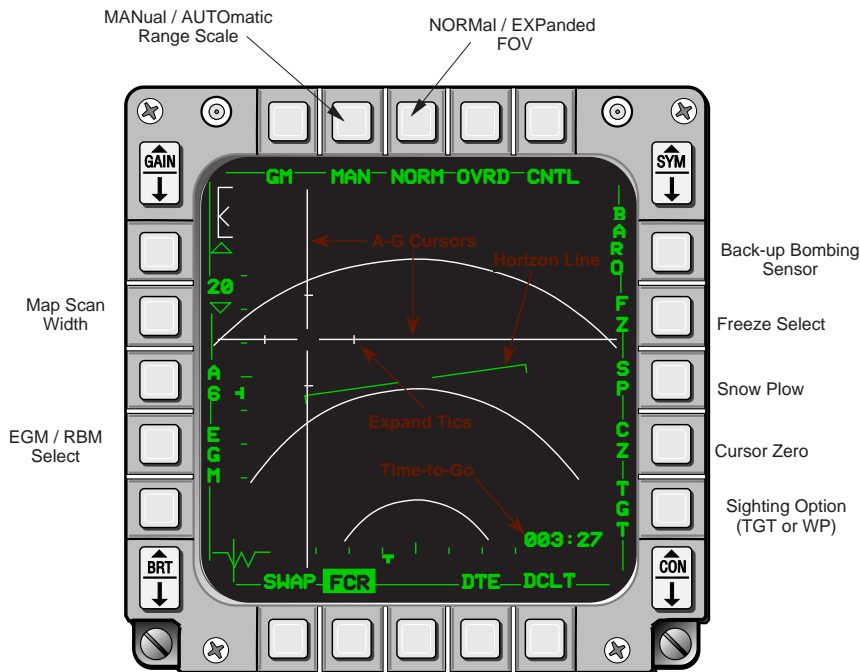

Figure 5-5 GM or SEA FCR Format
Ground Map (GM) and SEA modes share several common features. GM mode is used to “paint” the earth’s surface in relation to the nose of the aircraft. It is used for navigation and target detection applications where accurate radar cursor placement is required. SEA mode is designed to detect small surface targets in low to medium sea states – waves of approximately 8 feet or less. However, GM mode may also be used to search for surface targets in calm sea states and, in fact, may prove to be more effective than SEA mode. GM and SEA MFD formats are identical except for the mode mnemonic at OSB 1, GM when in Ground Map mode and SEA when in SEA (Figure 5-5). Each uses a PPI format with identical range scales (10, 20, 40, 80 NM), azimuth scans (+/- 60, 30, and 10 degrees), and slewable cursors. SEA and GM modes have only the TGT sighting point option and cursors available. The cursors are very large and include tic marks for depicting the map (patch) size, which will be displayed when the Expand function is entered. The waypoint sighting option and cursors are for use with the Penguin capability.